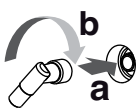

fig. 3
- 2) In models with continuous drain, screw on the connector as shown in figure 3.